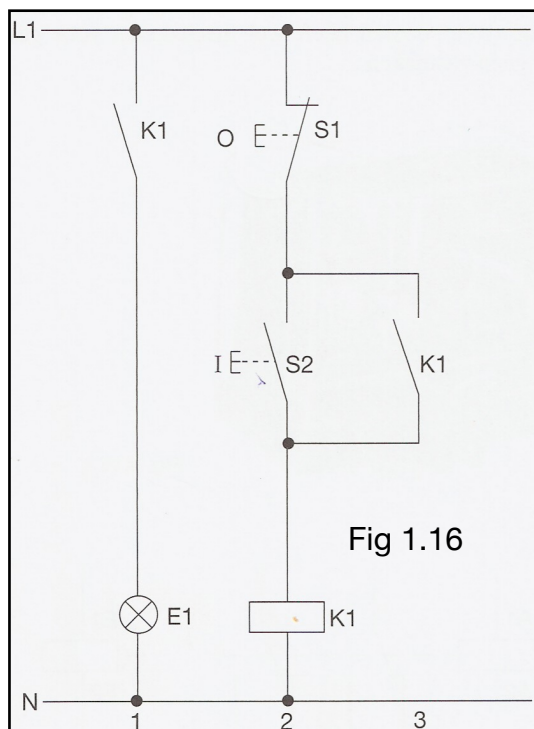

Fig 1.16
1. Start-stop (voorrang stop) (Fig 1.16)